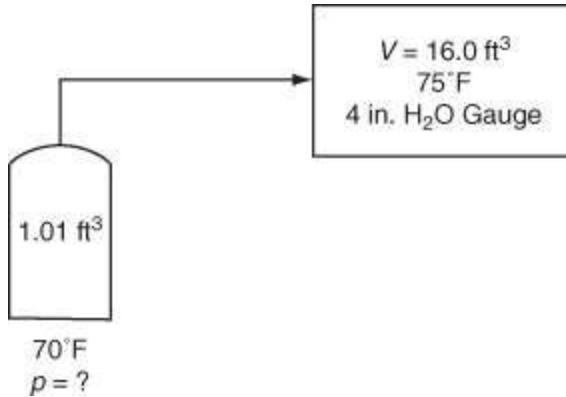

Figure P7.1.7
****7.1.7.** An oxygen cylinder used as a standby source of oxygen contains O_2 at 70°F. To calibrate the gauge on the O_2 cylinder, which has a volume of 1.01 ft³, all of the oxygen, initially at 70°F, is released into an evacuated tank of known volume (15.0 ft³). At equilibrium, the gas pressure was measured as 4 in. H₂O gauge and the gas temperature in both cylinders was 75°F. See Figure P7.1.7. The barometer read 29.99 in. Hg.